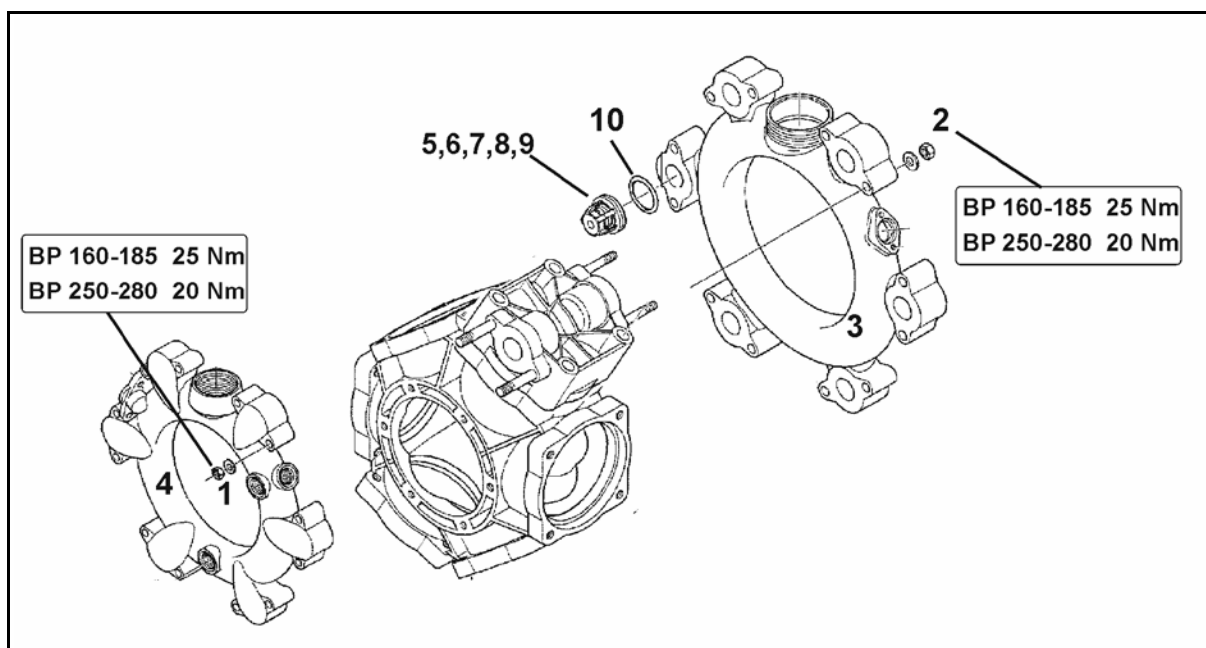

Fig. 190
- Pay attention to the respective installation positions of the valves on the suction and pressure sides before removing the valve groups (Fig. 190/5).
- When reassembling, ensure that the valve guide (Fig. 190/9) is not damaged. Damage may cause the valves to jam.
- Always tighten the nuts (Fig. 190/1,2) in a crosswise fashion using the specified torque. Improper tightening of the screws causes warping, which results in leaks.
2. Remove the nuts (Fig. 190/1,2).
3. Remove the suction and pressure port (Fig. 190/3 and Fig. 190/4).
4. Remove the valve groups (Fig. 190/5).
5. Check the valve seat (Fig. 190/6), valve (Fig. 190/7), valve spring (Fig. 190/8) and valve guide (Fig. 190/9) for wear or damage.
6. Remove the O-ring (Fig. 190/10).
8. After testing and cleaning, fit the valve groups (Fig. 190/5).
9. Insert new O-rings (Fig. 190/10).
10. Mount the suction (Fig. 190/3) and pressure port (Fig. 190/4) on the pump housing.
11. Tighten the nuts (Fig. 190/1,2) in a crosswise fashion using a torque of **25 Nm (BP 160-185) / 20 Nm (AR 250-280)**.